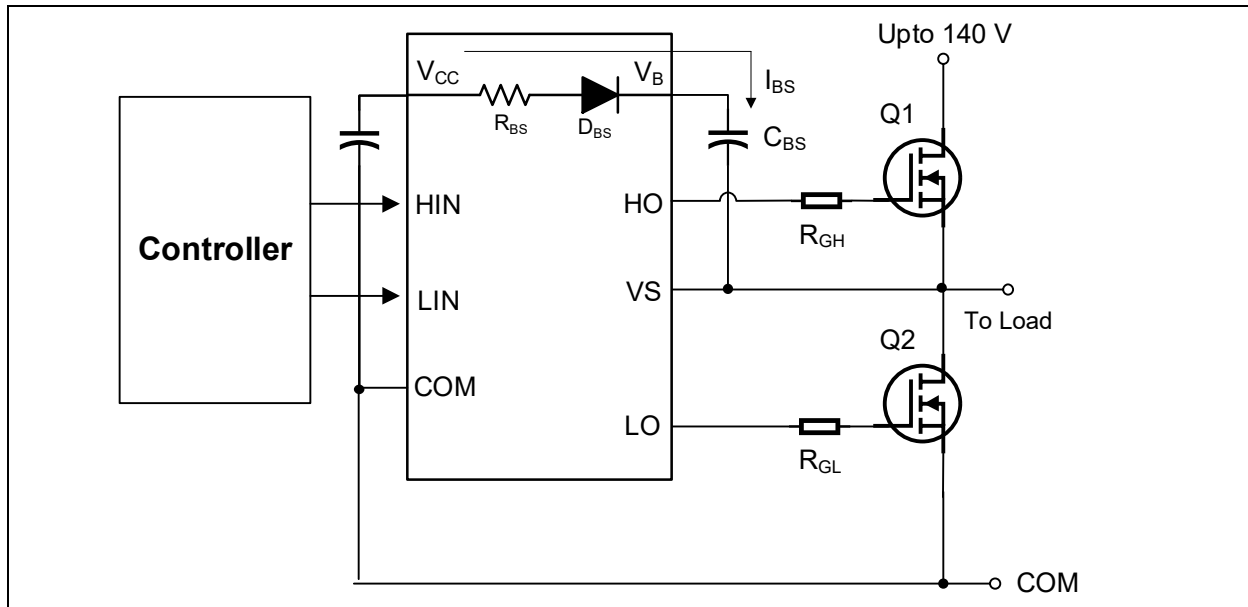

Figure 29 Half bridge bootstrap circuit in 6ED2742S01Q
**Gate Drive Loops:** Current loops behave like antennas and are able to receive and transmit EM noise (see Figure 29). In order to reduce the EM coupling and improve the power switch turn on/off performance, the gate drive loops must be reduced as much as possible. Moreover, current can be injected inside the gate drive loop via the MOSFET collector-to-gate parasitic capacitance. The parasitic auto-inductance of the gate loop contributes to developing a voltage across the gate-emitter, thus increasing the possibility of a self turn-on effect.